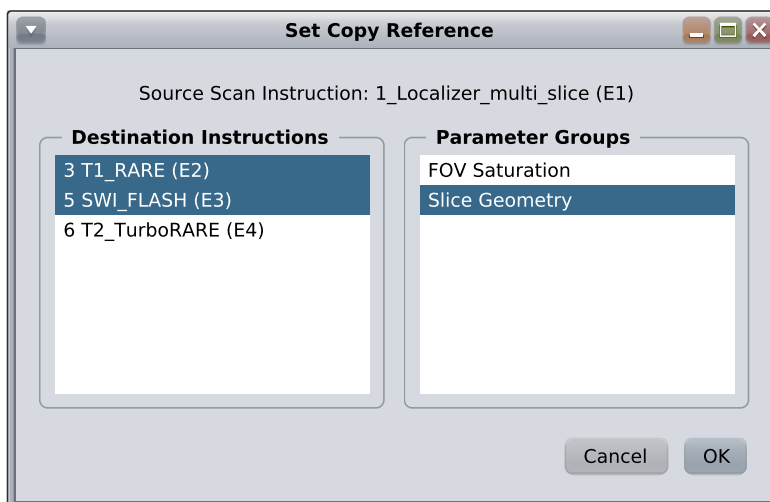

Figure 1.26: Dialog Set Copy Reference
- ▶ A dialog (see [Figure 1.26 \[p. 49\]](#)) is opened allowing the operator to select the destination instruction(s) (which should receive the parameters) and the parameter group to be copied each time parameters from the selected parameter group are changed in the source instruction. Click **OK** to mark the destination instructions.